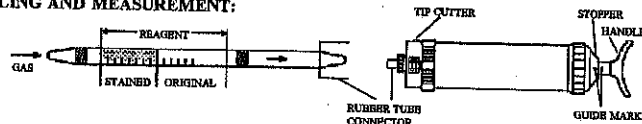

Fig.1
- ② Insert the detector tube into aspirating pump securely as shown in Fig.1. (Arrow mark shall point to the pump.)
- ③ Align the guide marks on the shaft and stopper of the aspirating pump.
- ④ Pull the pump handle at full stroke (100ml) until it locks and wait for 1.5 minutes as it is or until the sampling is confirmed as to be completed. (See descriptions of the flow indicator in the pump instruction manual.)